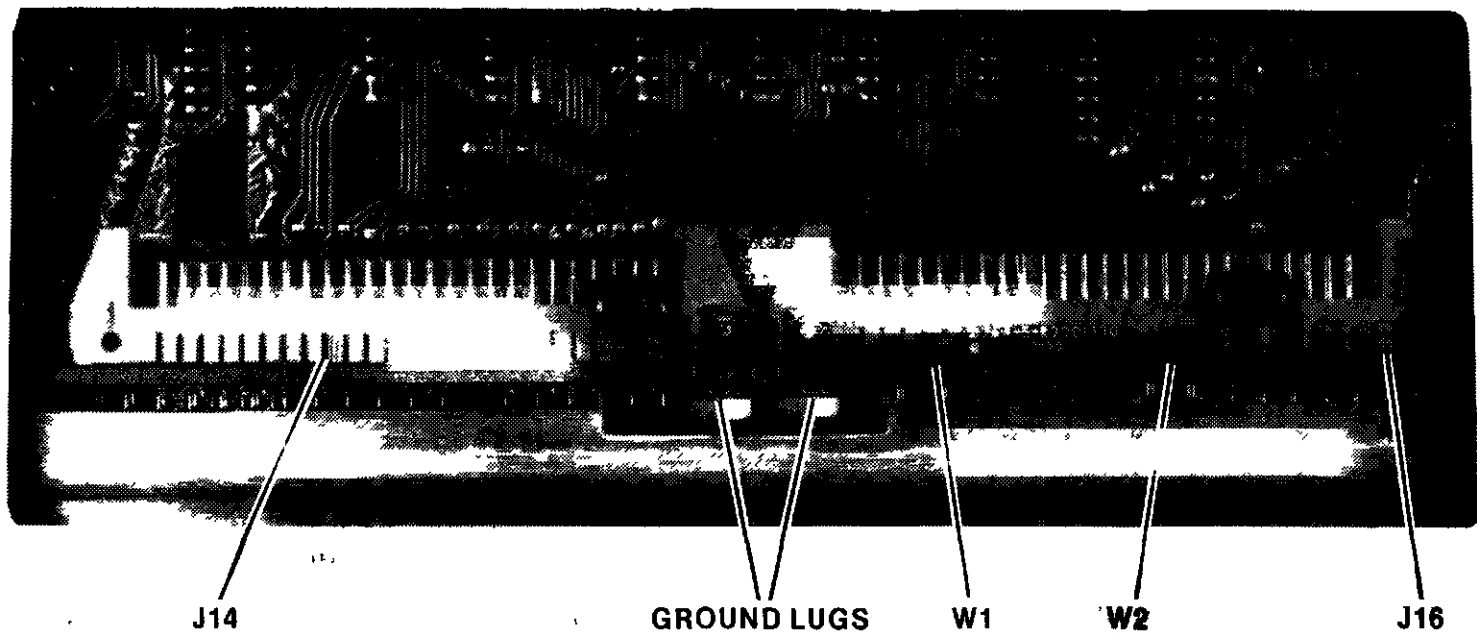

Figure 4-2. Mainframe Cable Port Details
4. Refer to figure 4-2 and remove jumpers W1 and W2 from underneath connector J16 (accessible through mainframe cable port). Save port covers and jumpers in case expansion chassis is disconnected from mainframe in future.